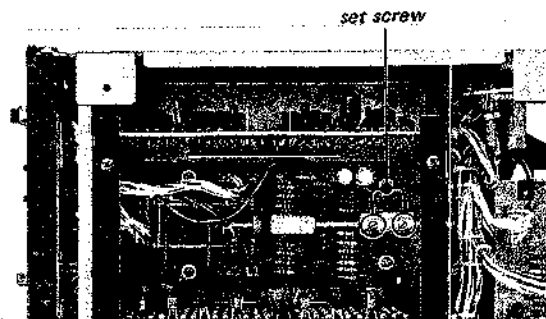

Fig. 2-3. Front subchassis removal
2. Loosen the two set screws shown in Fig. 2-3.